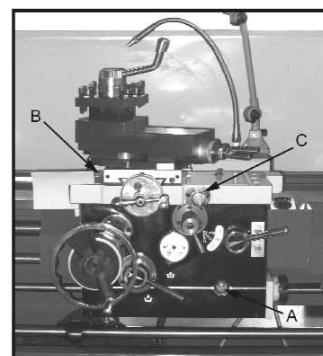

Fig. 5
3. **Apron** - Oil must be between indicator marks in the oil sight glass (A, Fig. 5). Top off with Mobil DTE® Oil Heavy Medium. Remove oil plug (B, Fig. 5) on upper right of apron to fill. To drain, remove drain plug on bottom of apron. Drain oil completely and refill after the first three months of operation. Then, change oil in the apron annually. Pull knob (C, Fig. 5) on the one-shot lube system and hold for several seconds to allow oil to fill the pump. When the knob is released, oil will flow through various oil lines to lubricate the ways and cross slide surface. Perform this twice daily or as needed. When the oil level is below the indicator mark, oil must be added.